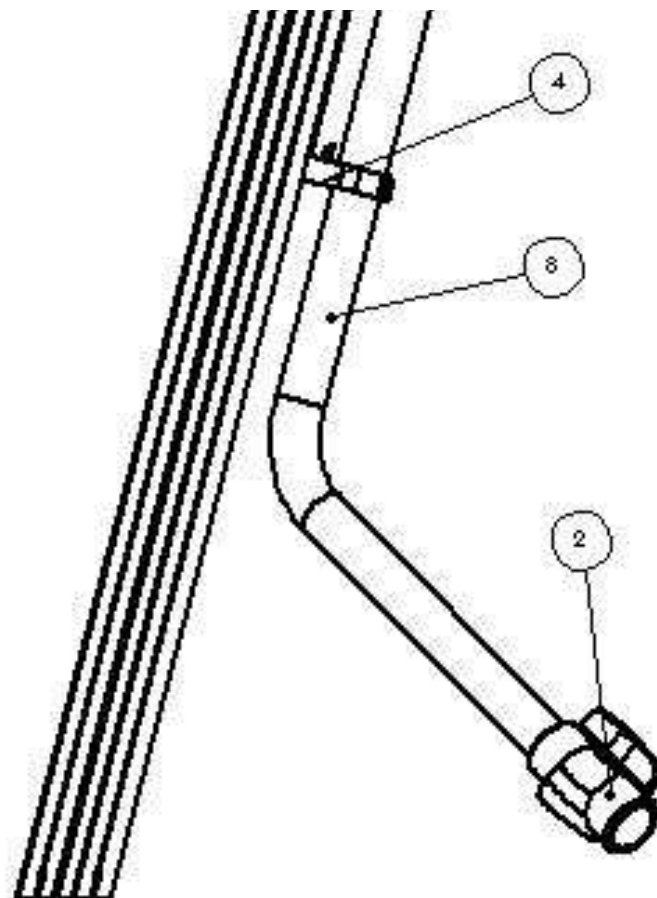

Figure 15
- 17) Apply PVC glue to one socket of the (#2) PVC Ball Valve and insert the PVC hose into the valve as shown in Figure 15. Allow the glue sufficient time to dry. The final step is joining the PVC Ball Valve to the water source.